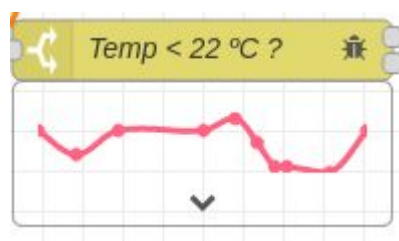
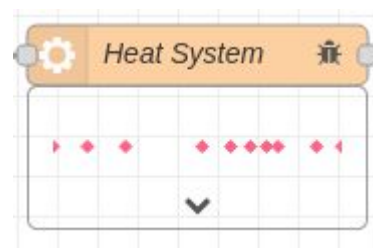

Figure 1.2
Figure 1.3
- 2) Messages Graphic - has two different modes, when a payload is a number it displays a line graph, as visible in figure 1.2, otherwise displays a scatter graph with message frequency, as shown in figure 1.3.